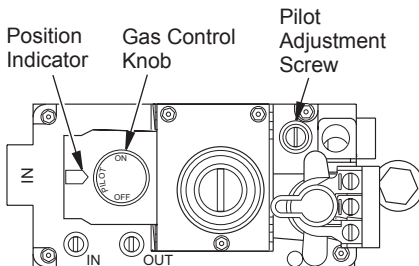

Figure 36 - Control Knob in the PILOT Position
- Turn adjustment screw marked pilot clockwise to decrease or counterclockwise to increase flame to proper size (see Figure 36, page 19). Do not remove adjustment screw.